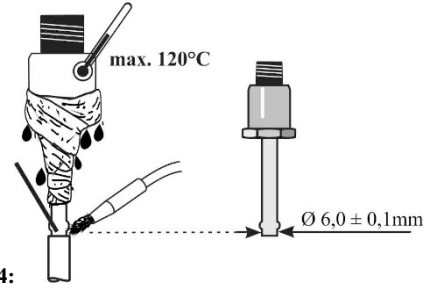

Fig.4:
**Attacco a Saldare: (Fig. 4)**